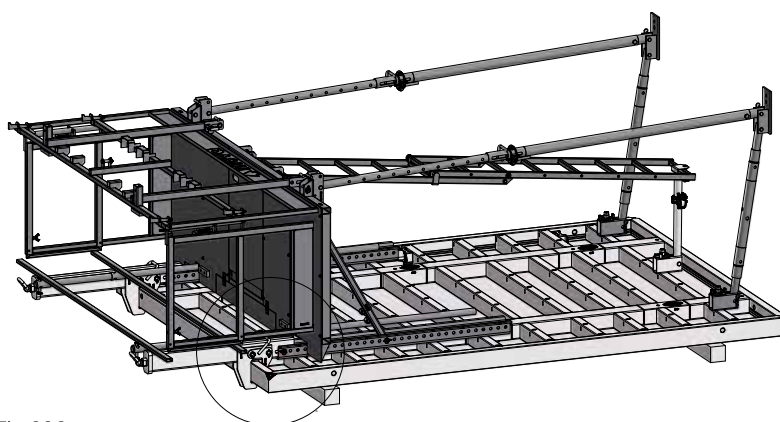

Fig. 26.2
2. Place the lifting arm over the frame of the formwork. The bottom part of the lifting arm must be located in the profile of the linkage (Figures 26.2 and 26.3).
3. Rotate the clamp underneath the frame profile and secure it with the head bolt and linchpin (Figures 26.2 and 26.3).
4. Secure the lifting arm to the linkage through the slotted hole using the head bolt and linchpin (Figures 26.2 and 26.3).